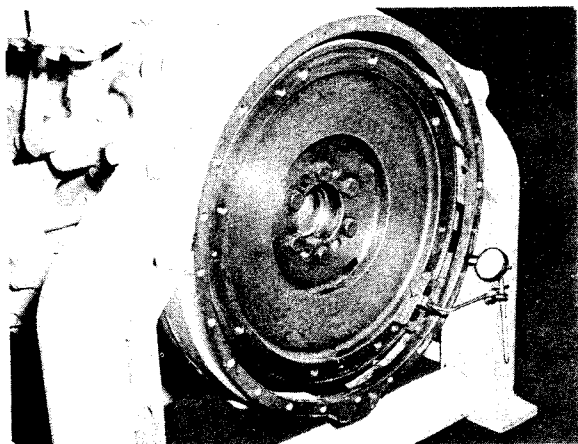

FIGURE 2-4 CHECKING ENGINE FLYWHEEL HOUSING RUNOUT
5. With indicator base mounted on the flywheel and the indicator finger on the flywheel housing as shown in figure 2-4, turn the engine through one revolution. Maximum total indicator reading should not exceed .003 inch per foot diameter of flywheel housing. See Table A. If runout exceeds limits, contact KATO Engineering Company and engine manufacturer for recommendations. State flywheel housing size and runout recorded.